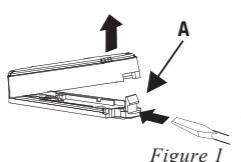

Figure 1
1. Open the pushbutton (Refer to Figure 1)